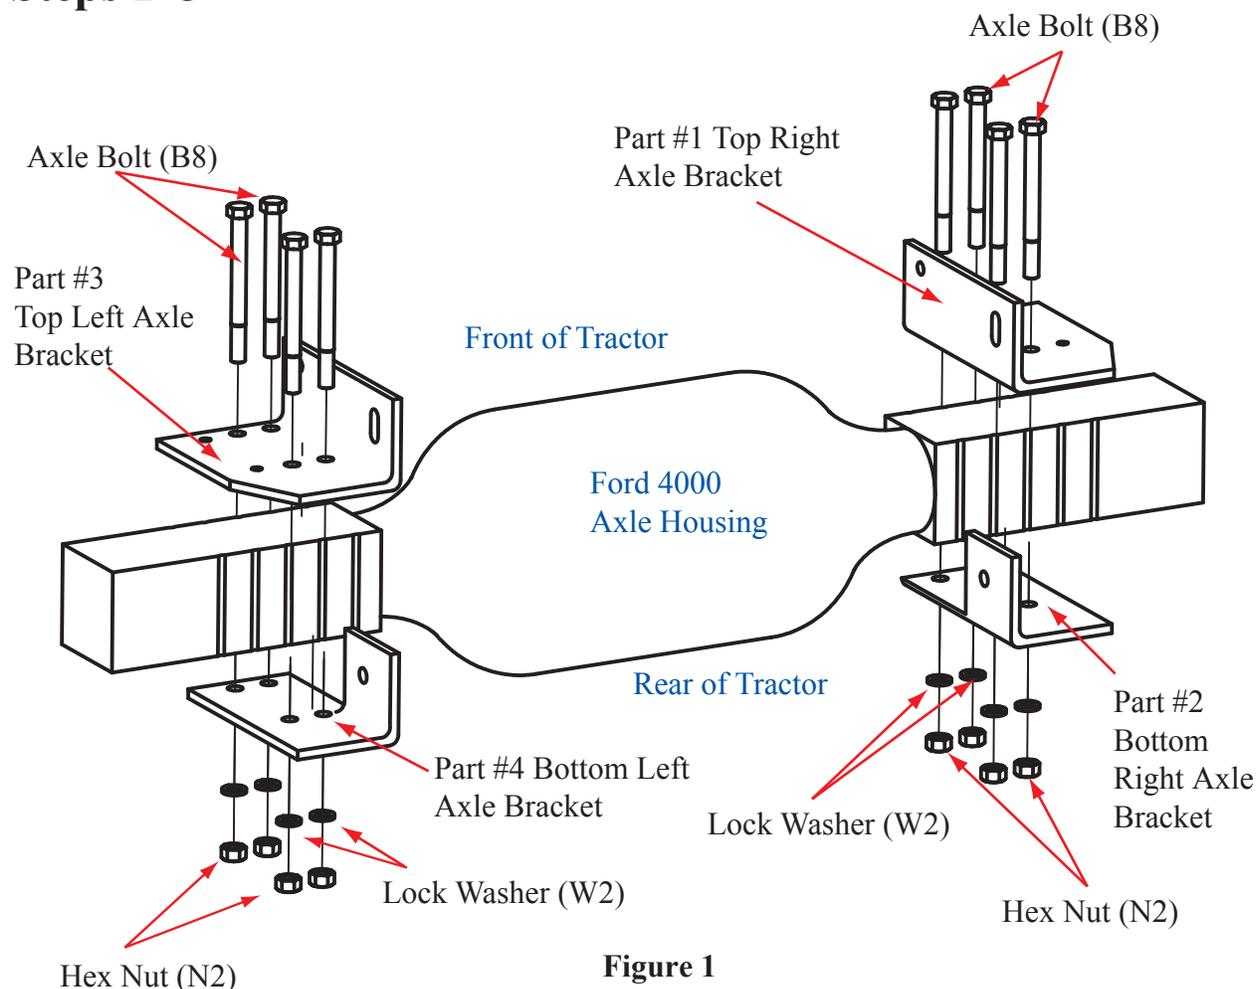

Figure 1
**Step 1.** Read the “special notes” section on page 5 and “fender mounting instructions” on pages 14-16. (NOTE: Fender installations options “B” or “C” are installed at this time. Fender Option “A” is installed after Step 23). Place the top right axle bracket (#1) on top of the right axle. Insert four axle bolts (B8) down through the axle bracket pattern and through the second and third axle slots of the tractor located between the center of the tractor and the tire. (Figure 1)
**Step 2.** Align and install the bottom right axle bracket (#2) to the bottom of the tractor axle using the four-hole bolt pattern of the axle bracket and the bolts inserted in step 1. If needed for a draw bar link, install a bottom right lower link support bracket to the axle bolts (B8) and the bottom surface of the axle bracket (#2). Install lock washers (W2) and nuts (N2) to axle bolts (B8). Tighten bolts and nuts until axle brackets are “snug fit” to axle. (Figure 1)